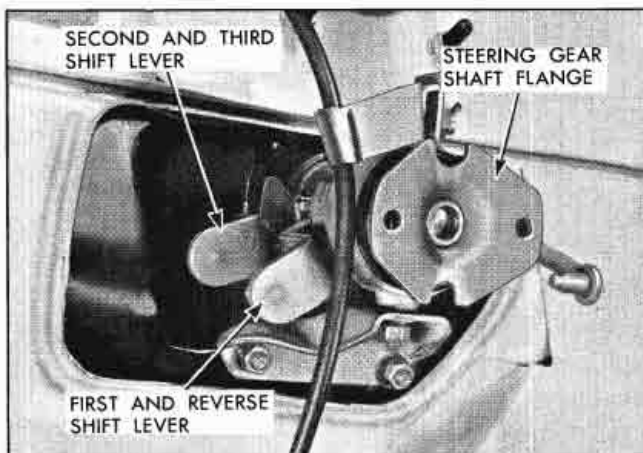

Fig. 7-9 Lining Up 2nd and 3rd and First and Reverse Shift Levers in Neutral Position
3. Line up 2nd and 3rd and first and reverse levers at lower end of steering column (Fig. 7-9) so they